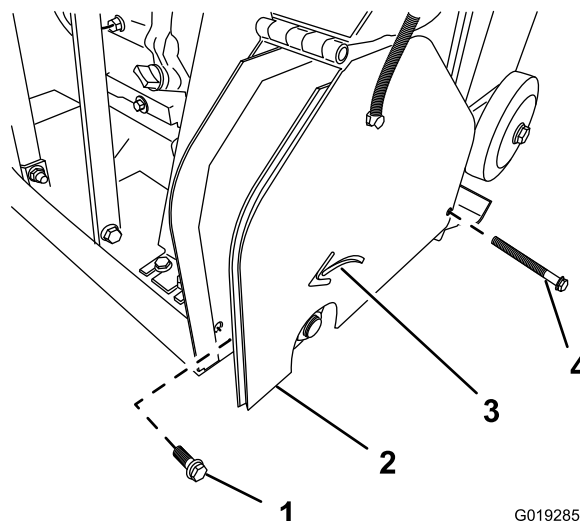

Figure 32
- B. Support the belt guard and remove the rear bolt and washers that secures the guard to the base. Remove the guard (Figure 32).
- A. Using a wrench from the machine, remove the forward bolt and washers, located inside the belt guard, that secure the guard to the base of the machine (Figure 32).